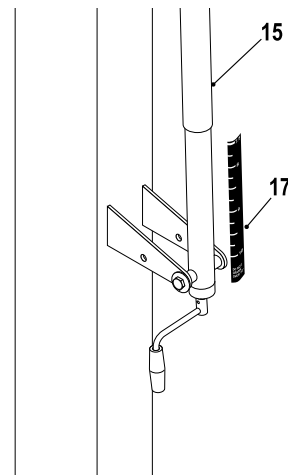

Figure 12
20. Adjust unit to 7-1/2 feet. Use a tape measure to measure from the top of the rim to the playing surface. Stick Height Decal (#17) to back of Actuator (#16) with the "7.5" mark aligned with bottom of Actuator Sleeve (#15). See Figure 12.